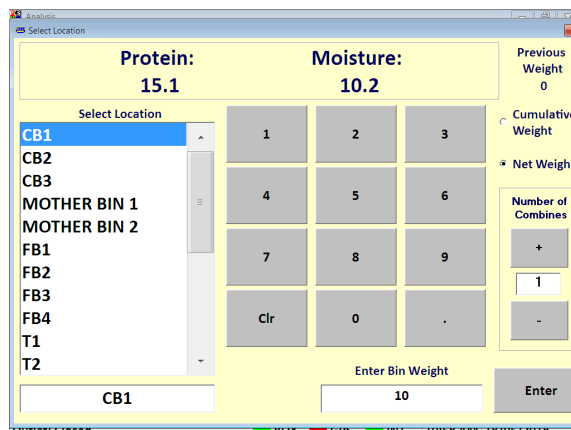

Figure 2.9. Grain Logistics Window
- When the grain tank is full and the out loading auger extends, a proximity sensor is activated. The Grain Logistics window will appear as shown in Figure 2.9 which allows the operator to select a storage location from a pull down list, enter the volume in tonnes, Kg’s or bushels and the number of Combine’s in use in the field. ie Grain going into a Grain Cart. (This is only activated if the **Storage Data Logistics View** option is ticked in the **Grain Logistics Menu**.)